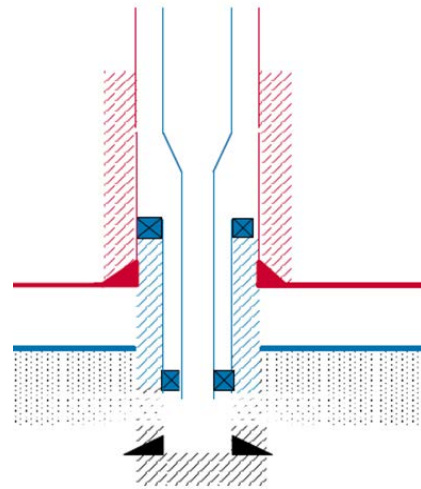

Figure 7.7.4.1
- the production packer shall be installed at a depth ensuring the injection or a casing leak below the production packer will not lead to fracturing of the cap rock or leak to shallower formation when applying maximum injection pressure (see figure 7.7.4.1);